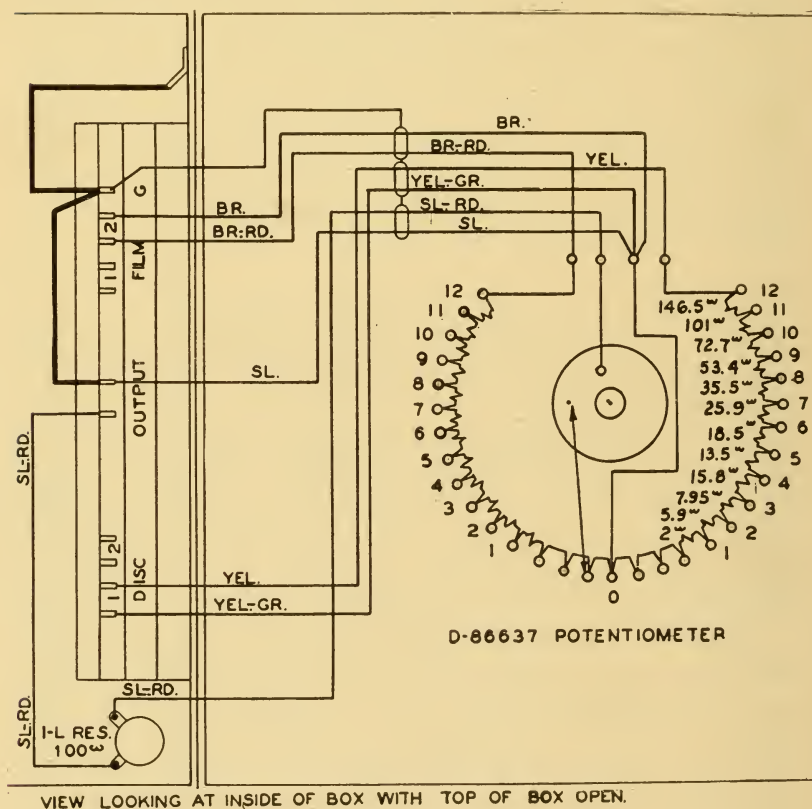

FIGURE 125
often runs through a fader that is built as a double potentiometer and therefore serves as a volume control also. One device of that kind is diagrammed in Figure 125.
(35) Figure 125 represents one of a number of essentially similar devices created to serve simultaneously as volume control and as changeover. The projectionist who takes the trouble to follow the circuits of this simple diagram should have no trouble tracing out the wiring of any of its cousins.
Along the left-hand side of Figure 125 are eleven terminal contacts, drawn as small rectangles. The top terminal is labelled "G" and connects to the grounded
(36) Such control cabinets as that shown in Figure 125 are not normally used with non-synchronous sound. In theatres that use announcing microphones or non-synchronous phonographs the output of Figure 125 would run to a small switching panel mounted with or near the main amplifier, not to that amplifier direct. By means of that switching panel the amplifier system can be connected either with the source of synchronous sound (the output of Figure 125) or with the non-sync source, as desired. The wiring of such switching panels is in the same class with that of Figure 125, in that it contains